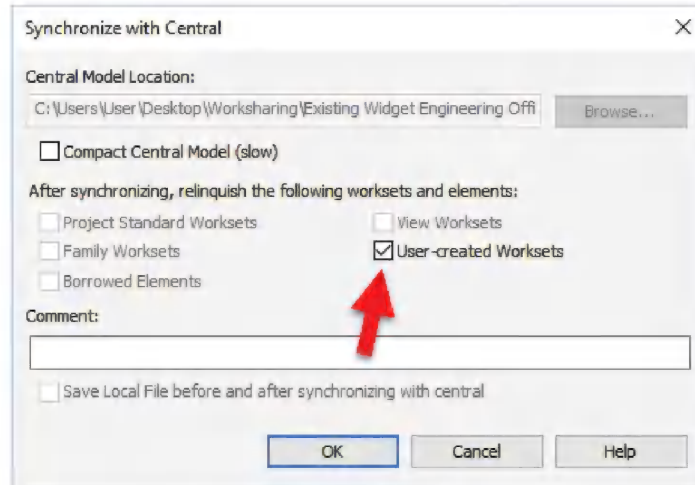

FIGURE 16-4.7 Synchronize with Central dialog
7. Check all checkable boxes, except the *Compact Central Model*; ignore the grayed out boxes and then click **OK** (Figure 16-4.7).